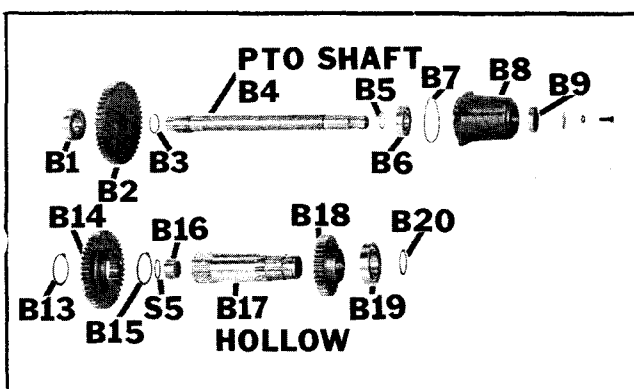

Figure 20
3. Remove PTO driven gear (B-2) and snap ring (B-3) from PTO shaft (B-4) (Figure 20).